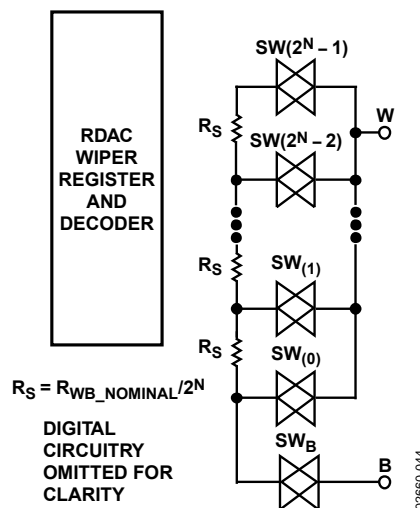

Figure 32. Equivalent RDAC Structure
The RDAC contains multiple strings of equal resistor segments with an array of analog switches that acts as the wiper connection. The number of positions is the resolution of the device. The ADN2850 has 1024 connection points, allowing it to provide better than 0.1% setability resolution. Figure 32 shows an equivalent structure of the connections among the three terminals of the RDAC. The SW_B is always on, while the switches, SW(0) to SW(2^N - 1), are on one at a time, depending on the resistance position decoded from the data bits. Because the switch is not ideal, there is a 30 Ω wiper resistance, R_W. Wiper resistance is a function of supply voltage and temperature. The lower the supply voltage or the higher the temperature, the higher the resulting wiper resistance. Users should be aware of the wiper resistance dynamics, if accurate prediction of the output resistance is needed.
The first connection of the wiper starts at Terminal B for Data 0x000. $R_{WB}(0)$ is 30 Ω because of the wiper resistance, and it is independent of the nominal resistance. The second connection is the first tap point where $R_{WB}(1)$ becomes 24.4 Ω + 30 Ω = 54.4 Ω for Data 0x001. The third connection is the next tap point representing $R_{WB}(2)$ = 48.8 Ω + 30 Ω = 78.8 Ω for Data 0x002, and so on. Each LSB data value increase moves the wiper up the resistor ladder until the last tap point is reached at $R_{WB}(1023)$ = 25006 Ω . See Figure 32 for a simplified diagram of the equivalent RDAC circuit.